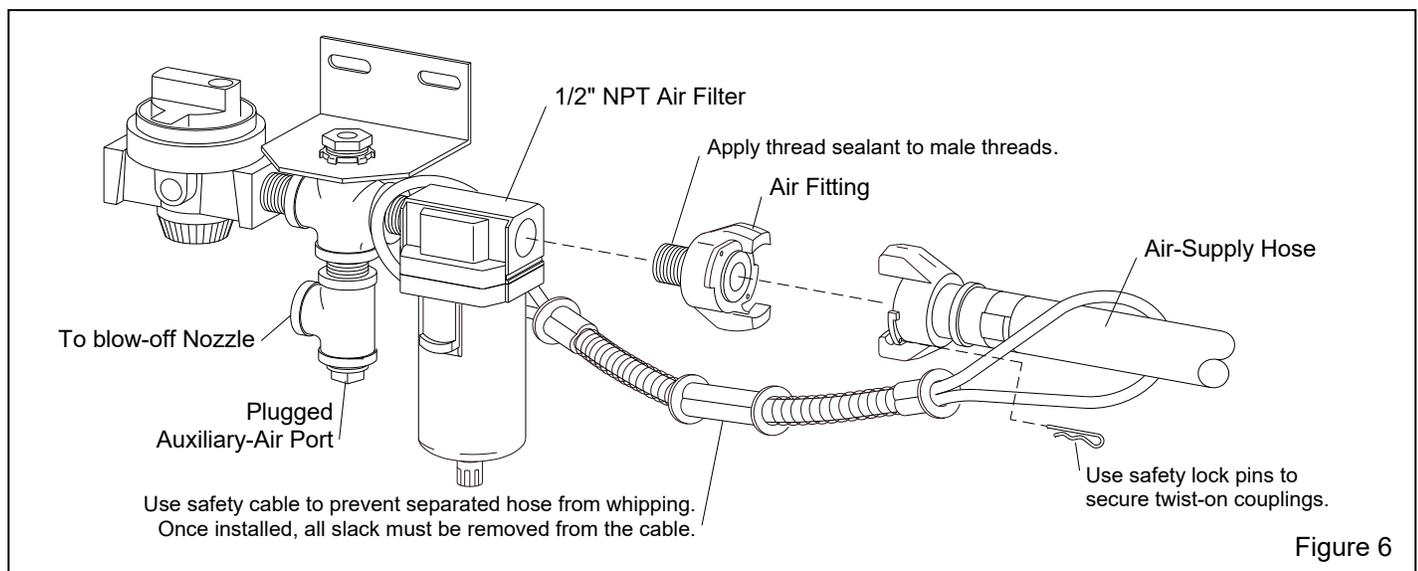

Figure 6
A separate air line is required for the dust-collector pulse. The line may be connected to the auxiliary-air port on the cabinet plumbing, as shown in Figure 6.
**2.3.1** Refer to Paragraph 2.3.2 to determine the recommended air-supply hose size, then refer to Figure 6 and apply thread sealant to the male threads of an air fitting that is compatible with the air-supply hose fitting, and install it onto the 1/2-NPT air filter located under the cabinet hopper. The style of connection shown in Figure 6 is for reference only.